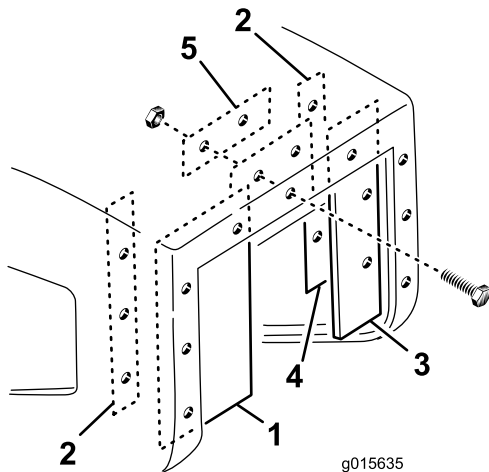

Figure 22
1. Secure the wide shield to the left inside lip of the hopper opening with a long flat, 3 screws (#10 x 1 inch), and 3 flange nuts (#10) as shown in Figure 22.
2. Secure the narrow shield to the right inside lip of the hopper opening with a long flat, 3 screws (#10 x 1 inch) and 3 flange nuts (#10) as shown in Figure 22.
3. Secure the top shield to the upper inside lip of the hopper opening with a short flat, 2 screws (#10 x 1 inch) and 2 flange nuts (#10) as shown in Figure 22.